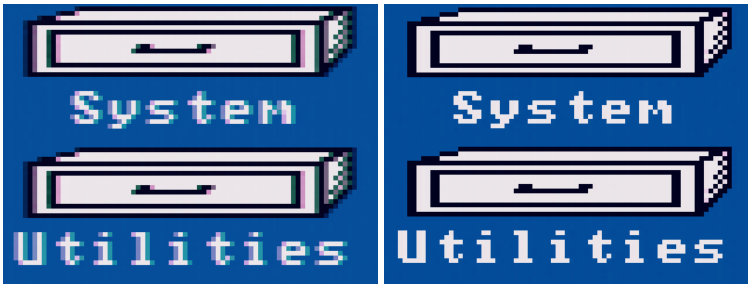

Figure 3: Get clear text with the control knob parameter **Samples** (6)
2. It lets you control the next parameter. (Continuing the previous example: The LED starts blinking at 2Hz (4) and you can change the horizontal position "X-Pos".)
The parameter **Samples** (6) adjusts how samples are combined into a pixel. The effect is most visible for text as shown in Figure 3.